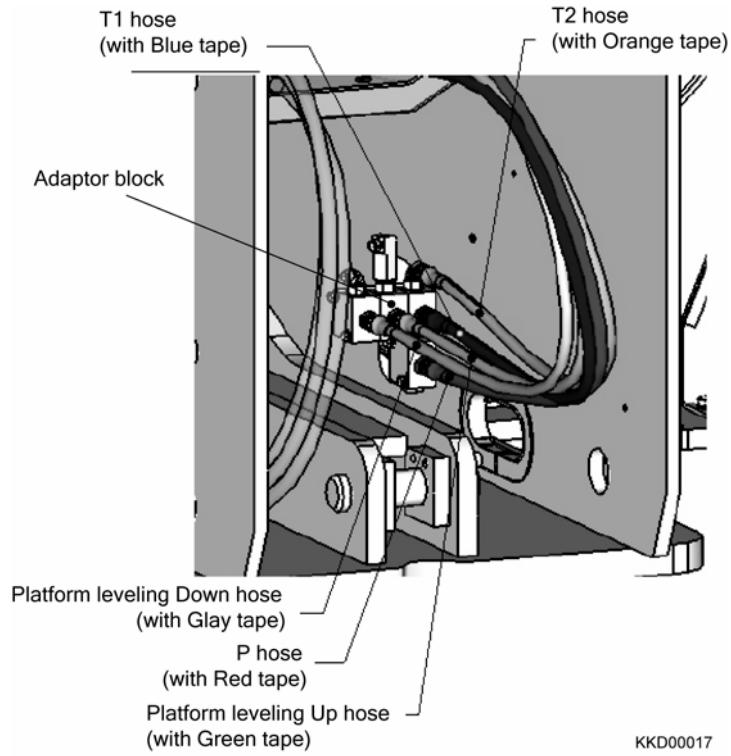
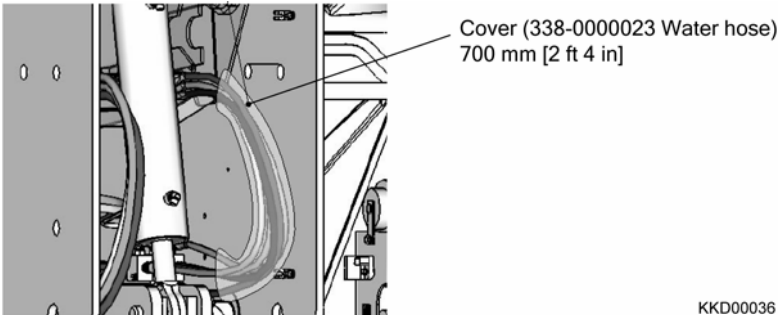

Fig. 2-46
Fig. 2-69
21) Tag, Disconnect the T1 hose, T2 hose, P hose, Platform leveling Up hose and Down hose from the adaptor block (Fig. 2-46), and then plug the fittings on the adaptor block and hose ends.
14) Insert the T1 hose, T2 hose, P hose, Platform leveling Up hose and Down hose to the cover (Fig. 2-69), and then connect them to the adaptor block. (Page. 2-21, Fig. 2-46)